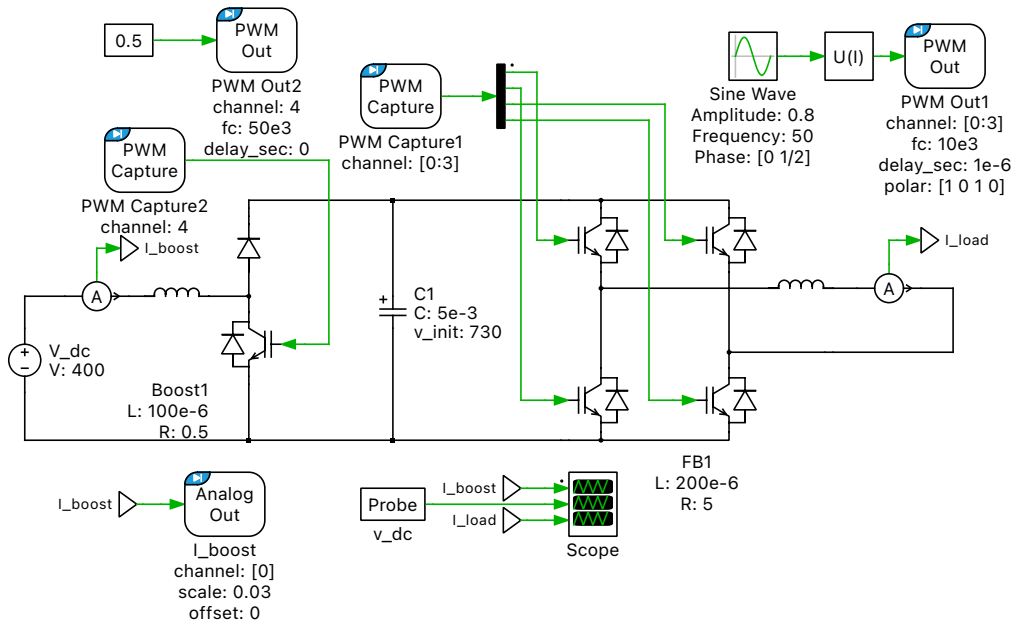

Figure 8: Schematic inside the “Plant” Subsystem in the *optional* task of Section 3.1
- 1 Read through the standard task in this Section 3.1. Add the Boost Converter in front of Full-Bridge Inverter. The only difference is the winding resistance of the Boost Converter component, $0.5\ \Omega$ instead of $0.1\ \Omega$. The schematic inside the “Plant” Subsystem should look like the Fig. 8.